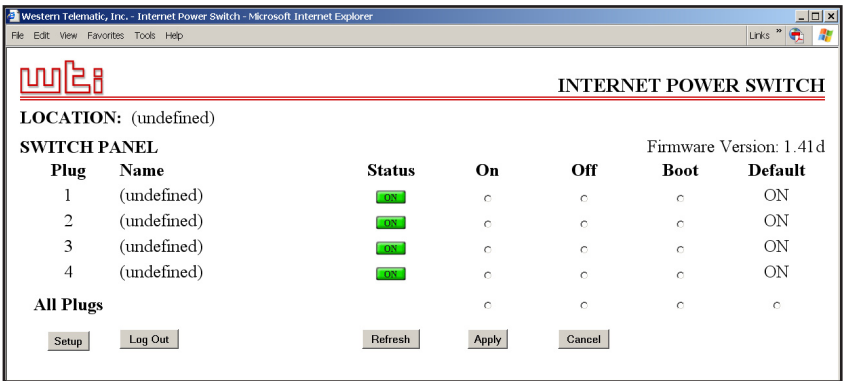

Figure 3.1: Plug Status Screen - Web Browser Interface
- a) **Web Browser Interface:** Start your JavaScript enabled Web Browser. Enter the IPS's default IP address (192.168.168.168) in your browser address bar and then press **[Enter]**. A password prompt will be displayed. Since at this point, the user name and password have not yet been defined, you can simply click OK without keying in a user name or password. The Plug Status Screen will be displayed as shown in Figure 3.1.